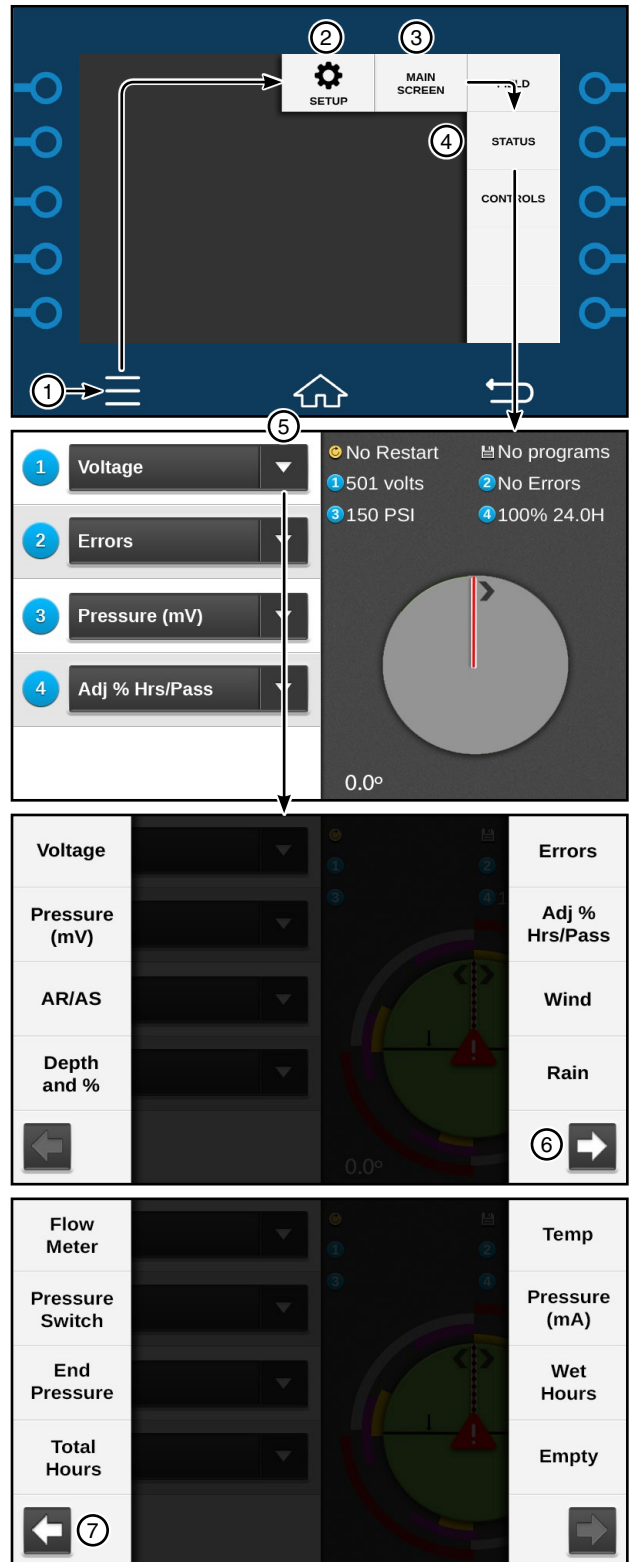

Figure 35-1 1. Menu 4. Status
2. On the Status screen select up to four statuses that you want to appear on the Main Screen. The Status drop-down Menu number relates to the location of the status on the Main Screen. See Figure 35-1.